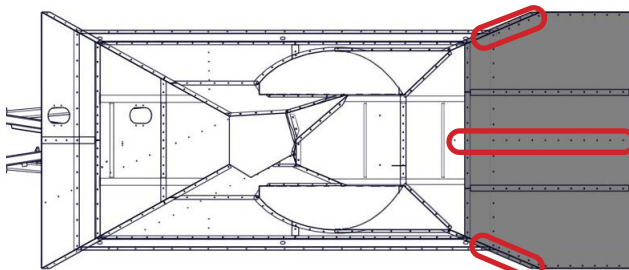

Fig. 18
- Attach the (3) rear panels according to Fig 18.
- Use (53) M10 x 25 hex bolts and (53) M10 hex nuts.